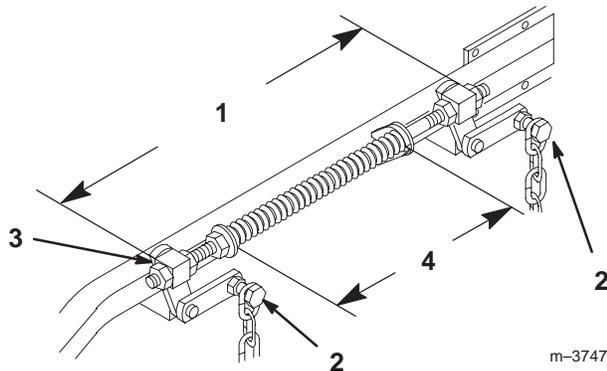

Figure 62
- Loosen four (4) top chain bolts in slots. Check the length of the rod/swivel assemblies. Distance from outside of rear swivel to outside of front swivel should be 19–17/32 inch (496 mm) (Fig. 62). Make sure that all four swivels move freely in holes.
2. Springs are compressed so the distance between the two large washers should be 10–1/4 inch (260 mm) (Fig. 62).
3. Adjust by turning nut in front of each spring (Fig. 62). Clockwise will shorten spring; counter-clockwise will lengthen spring.